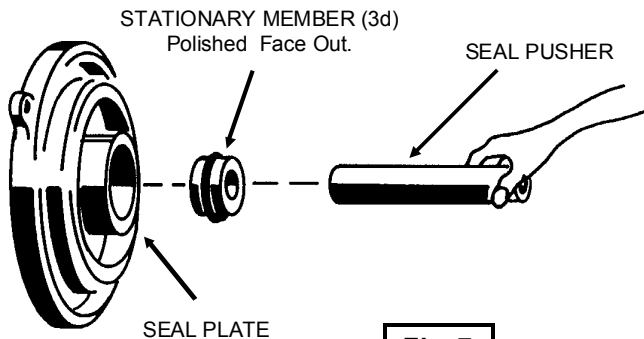

Fig. 7
F-4.2) Replacing Shaft Seal (refer to fig. 7, 8 & 9):
When replacing the shaft seal (3), remove used rotating member (3c), spring (3b), and spring retainer (3a) from motor shaft. Press used stationary member (3d) from the seal plate (2). At reassembly, clean seal cavity thoroughly and apply a light coat of oil. Lightly oil the rubber ring (**DO NOT** use grease) and press the stationary member firmly into the seal plate using a seal pusher (See Parts List- Seal Tool Kit), nothing but pusher to come in contact with seal face (see Fig. 7). Insert so that the finished surface is up and the grooved surface is against the seal plate. Make sure the stationary member is in straight and that the rubber ring is not out of it's groove.